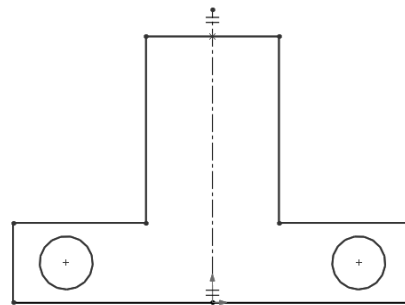

Figure 3-17 Sketch after drawing circles
- Create the left side sketch; the sketch will automatically be mirrored on the right side of the mirror line, refer to Figure 3-17.
11. Move the cursor horizontally toward right to draw a circle and click on the left mouse button when the radius of the circle above the cursor shows 10; the circle of 10 mm radius is drawn. Also, a mirror image is created automatically on the right side of the mirror line, refer to Figure 3-17.